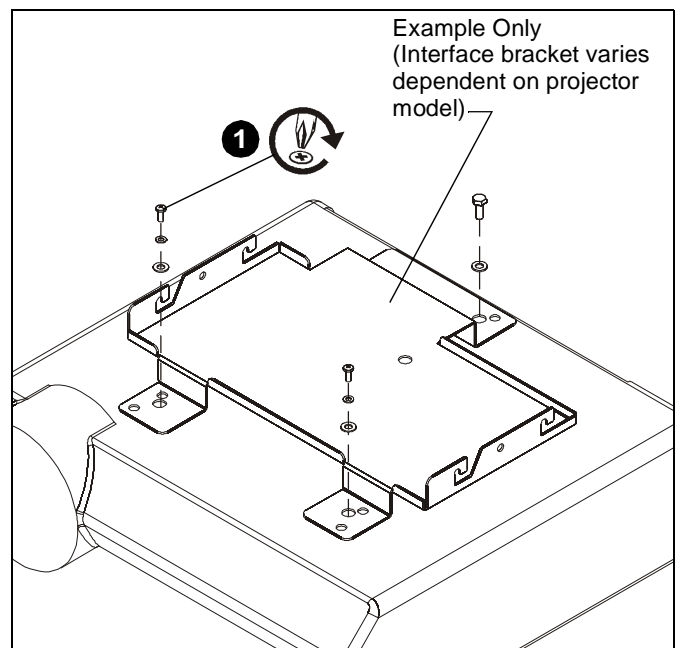

Figure 2
1. Secure interface bracket to VCM using installation instructions and hardware provided with interface bracket. (See Figure 2)